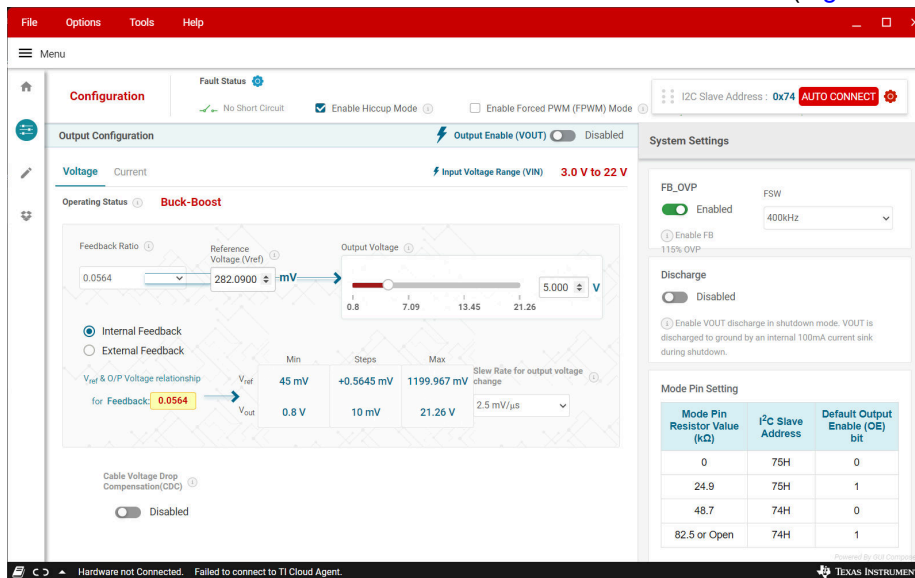

Figure 3-4. GUI User Interface of TPS55285EVM-053
5. Click the start button. This shows the GUI user interface of TPS55285EVM-053 (Figure 3-4).